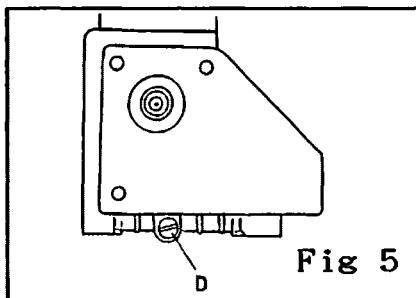

Fig 5
1. Loosen screw (1), drain all the oil from the tank, then fasten the screw. (Fig 5)